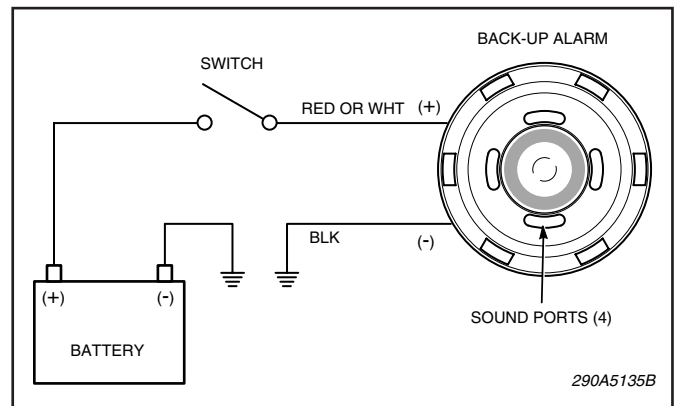

Figure 2.
1. See figure 2. Connect the red (or white) wire to the vehicle's backup light circuit, or to an independent actuating switch.